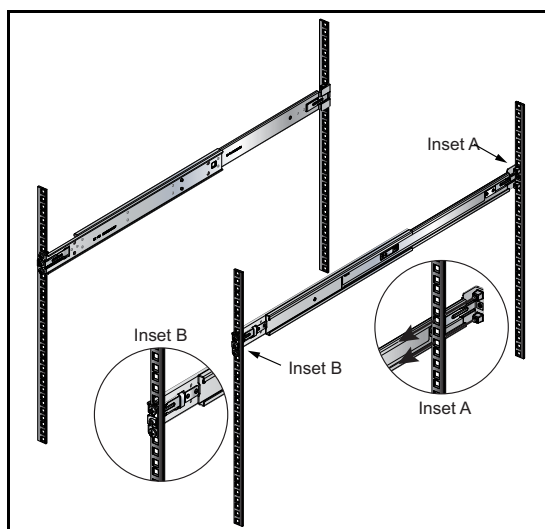

Figure 11: Attaching the Rails
Step 2 Attach rail to the right rear rack post by inserting rod-end rack plugs into post slots (Figure 11, inset A). The slide assembly must be inside the right posts, relative to the left rack posts.
Step 3 Attach the slide end of the rail to the front post by extending the rail end past the post, then contracting the rail while guiding the rack plugs into the post (Figure 11, inset B).